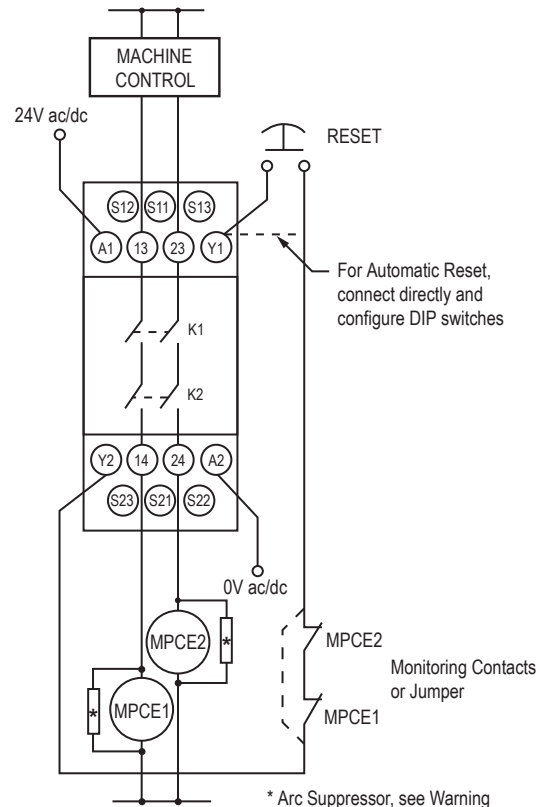

Figure 7. Wiring to the guarded machine
The reset function has two options, selected by DIP switch: Automatic reset or Monitored Manual reset. See Figure 7. Wiring to the guarded machine on page 9 for configuration information.
The machine interface hookup diagram (Figure 7) shows a generic connection of the Module's two redundant output circuits to machine primary control elements MPCE1 and MPCE2. A machine primary control element is an electrically powered device, external to the Module, which stops the guarded machinery by immediately removing electrical power to the machine and (when necessary) by applying braking to dangerous motion. The stop is accomplished by removing power to the actuator coil of either MPCE.
To satisfy the Safety Category 4 requirements of ISO 13849 (EN 954-1), each MPCE must offer a normally closed, forced-guided monitor contact. One normally closed monitor contact from each MPCE is wired in series to the Y1-Y2 feedback/reset input (see Figure 7. Wiring to the guarded machine on page 9). In operation, if one of the switching contacts of either MPCE fails in the shorted condition, the associated monitor contact will remain open, preventing the reset of the Module.
The reset switch must be capable of reliably switching 15 to 30V dc at 5 to 50 mA. As shown in Figure 7. Wiring to the guarded machine on page 9, the reset switch connects between terminals Y1 and Y2 of the Module. The reset switch must be located outside of – and not accessible from – the area of dangerous motion, and it must be positioned so the switch operator can see all areas of dangerous motion during the reset procedure (see Warning).
To configure the Module for Automatic Reset, set switches S1.2 and S2.2 in Banks A and B to ON. If no MPCE contacts are monitored, install a jumper between terminals Y1 and Y2 (see Figure 7. Wiring to the guarded machine on page 9). The Safety Module will reset (and its outputs will energize) as soon as the guards return to their closed position.
3. Apply input power (only) to the Gate Monitor Module at terminals A1 and A2 (see Figure 7. Wiring to the guarded machine on page 9). The following LEDs should come ON: Power, Input 1, Input 2